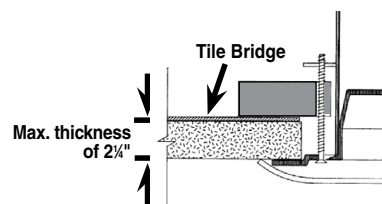

FIG. 2
- Figure 2 Enclosure installation from below ceiling using tile bridge above. This room-side installation into suspended tile utilizes rotating clamps to sandwich tile between bridge and enclosure. Max. ceiling thickness is 2 3/8".
Area of detail for Figures 2, 3 & 4